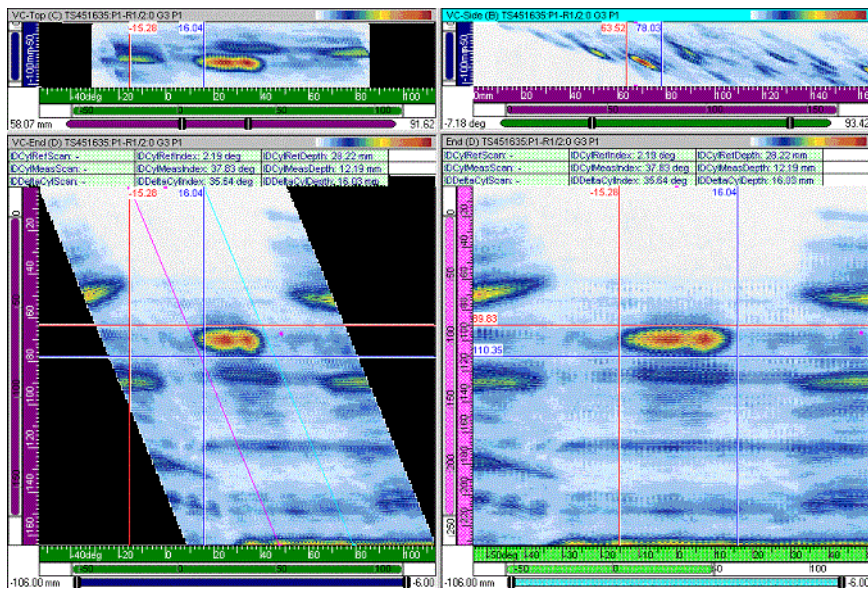

Figure 7-71 Cylindrical correction: example 3
- The **ID Cyl. Ref. Index** and **ID Cyl. Ref. Depth** information fields provide the position (index and depth axes), in the user-defined cylindrical geometry, of the point determined by the intersection of the horizontal reference (red) cursor and the angled reference (pink) cursor, in the VC-End (D) view, or by the horizontal and the vertical reference (red) cursors in the End (D) view.
- The information fields **ID Cyl. Meas. Index** and **ID Cyl. Meas. Depth** provide the position (index and depth axes) in the user-defined cylindrical geometry, of the point determined by the intersection of the horizontal measurement (blue) cursor and the angled measurement (cyan) cursor, in the VC-End (D) view, or by the horizontal and the vertical measurement (blue) cursors in the End (D) view.
- The provided position information in the cylindrical geometry takes into account multiple rebounds of the ultrasonic beam from both OD and ID, considering the wall thickness entered by the operator in the **Part Definition** dialog box (see Figure 7-71 on page 412).